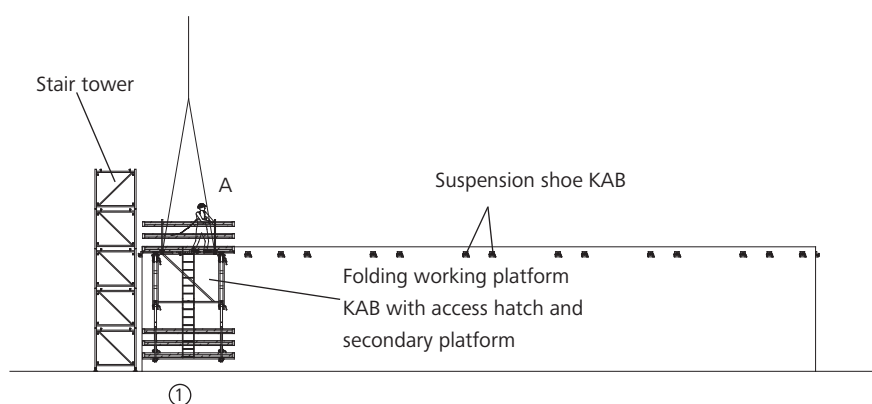

Fig. 27.1
1. A folding working platform KAB with access hatch and secondary platform is hooked into the prepared climbing shoes. Person A climbs onto the platform (1) from the stair tower (wall opening / means of conveying personnel) and is secured against falling by wearing personal protective equipment (Fig. 27.1). Person A then unhooks the crane ropes and remains on the platform (1).